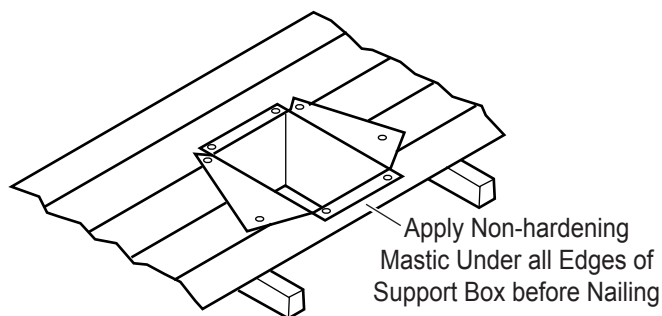

Figure 31 - Installed Cathedral Ceiling Support Box
4. Using tin snips, cut the support box from the top corners down to the roofline and fold the resulting flaps over the roof sheathing. See Figure 31. Apply a bead of non-hardening mastic around the top edges of the support box to make a seal between the box and the roof. Nail in place with roofing nails. Remove any combustible material that might be inside the support box.